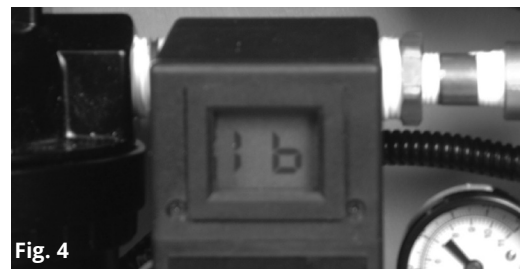

Fig. 4
To replace the 9-volt battery, remove the panel cover from the front of the CO monitor. Lift it off from either the left or right side. If a 9-volt battery is being used to power the monitor and the battery power becomes too low, the monitor will indicate low battery (LB) on the display to indicate it is time to change the battery. (Figure 4)